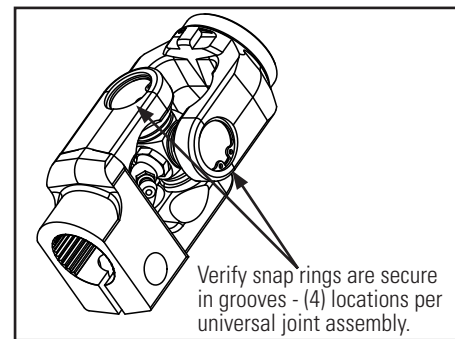

Figure 1 - Snap Ring Verification
2. Verify universal joint snap rings are secure in yoke assembly. **See Figure 1.**